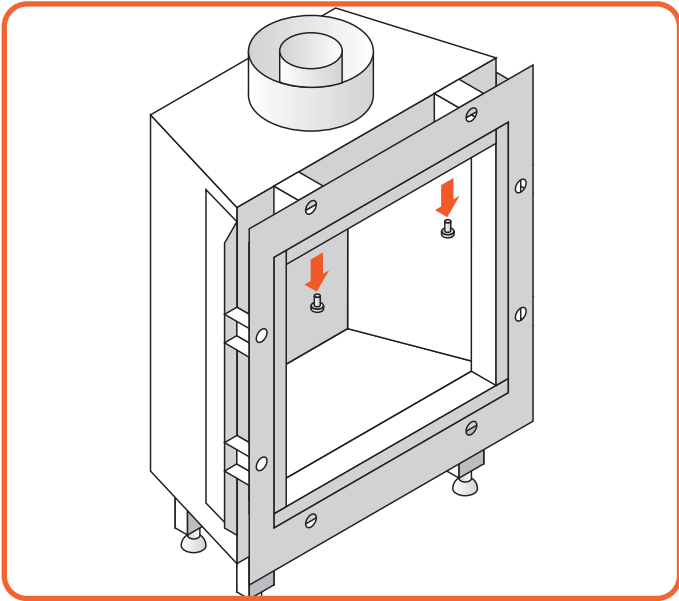

Figure 9.2 | Remove screws from the upper trims
- Remove the screws from the upper trim, see Figure 9.2